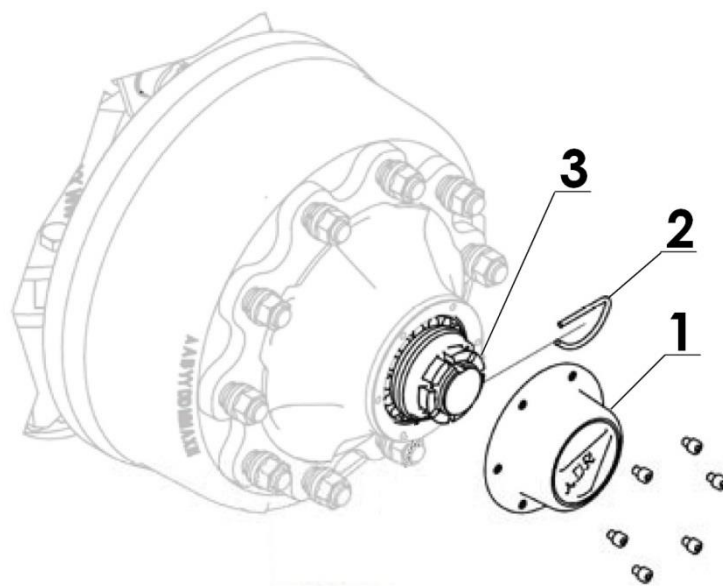

Figure 19. Wheel bearing play adjustment
- Remove the cover of the hub (1) (fig. 19).
- Pull out the clip pin (2) of the castellated nut (3).